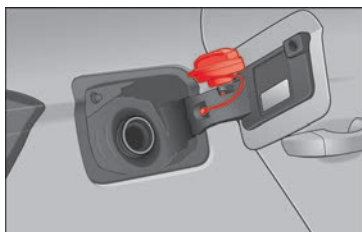

Fig. 63 Fuel tank flap with tank cap attached.
- Place it in the space on the hinge of the open flap »» **Fig. 63**.